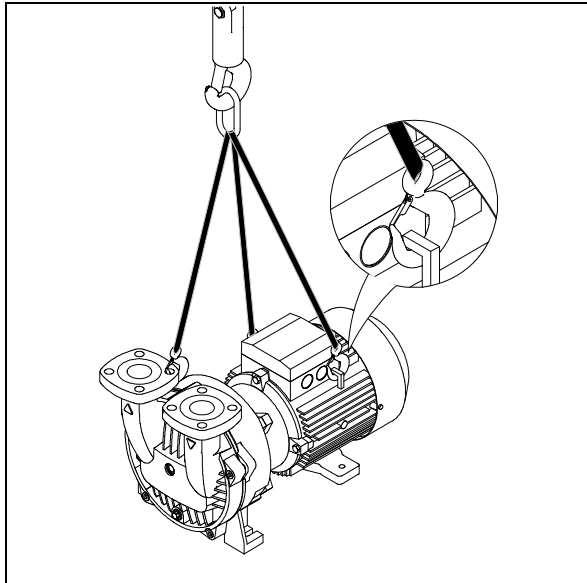
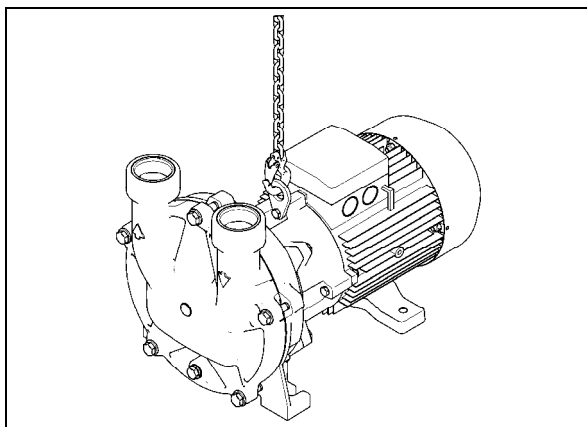

Fig. 4: Lifting points, 2BV5 1..
Fig. 6: Lifting points, 2BV5 47.
- the lifting points are the lifting eyes on the motor and one drilling in the discharge connection or the suction connection (Fig. 4 - Fig. 6, page 14).